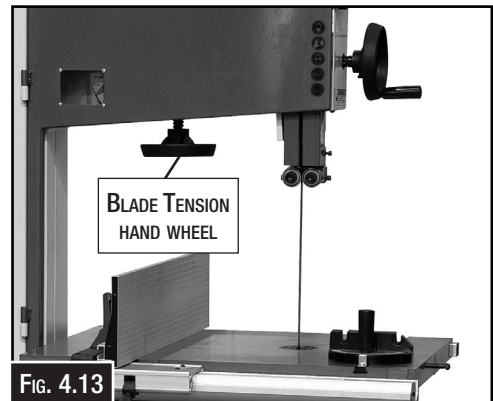
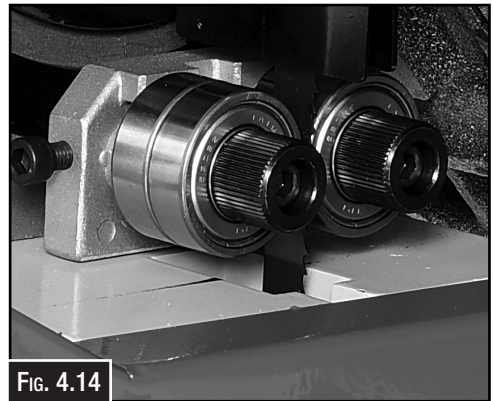

FIG. 4.13
FIG. 4.14
2. Raise the upper blade guide assembly as high as it will go, (Fig.4.13) and adjust the upper and lower guide blocks approximately 0.5mm away from the blade. (Fig. 4.14)